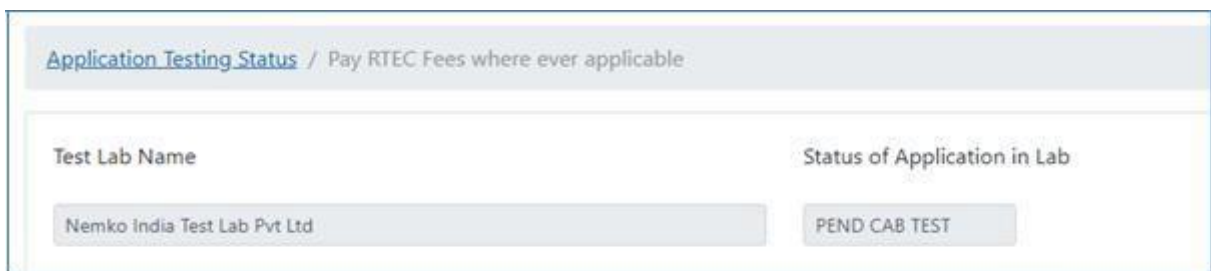

Fig. 27: Application Testing Status - CAB testing
- 1) When selected, CAB accepts the application, the status of application will change to PEND CAB TEST as shown in Fig. 27, and mail will be sent to User.